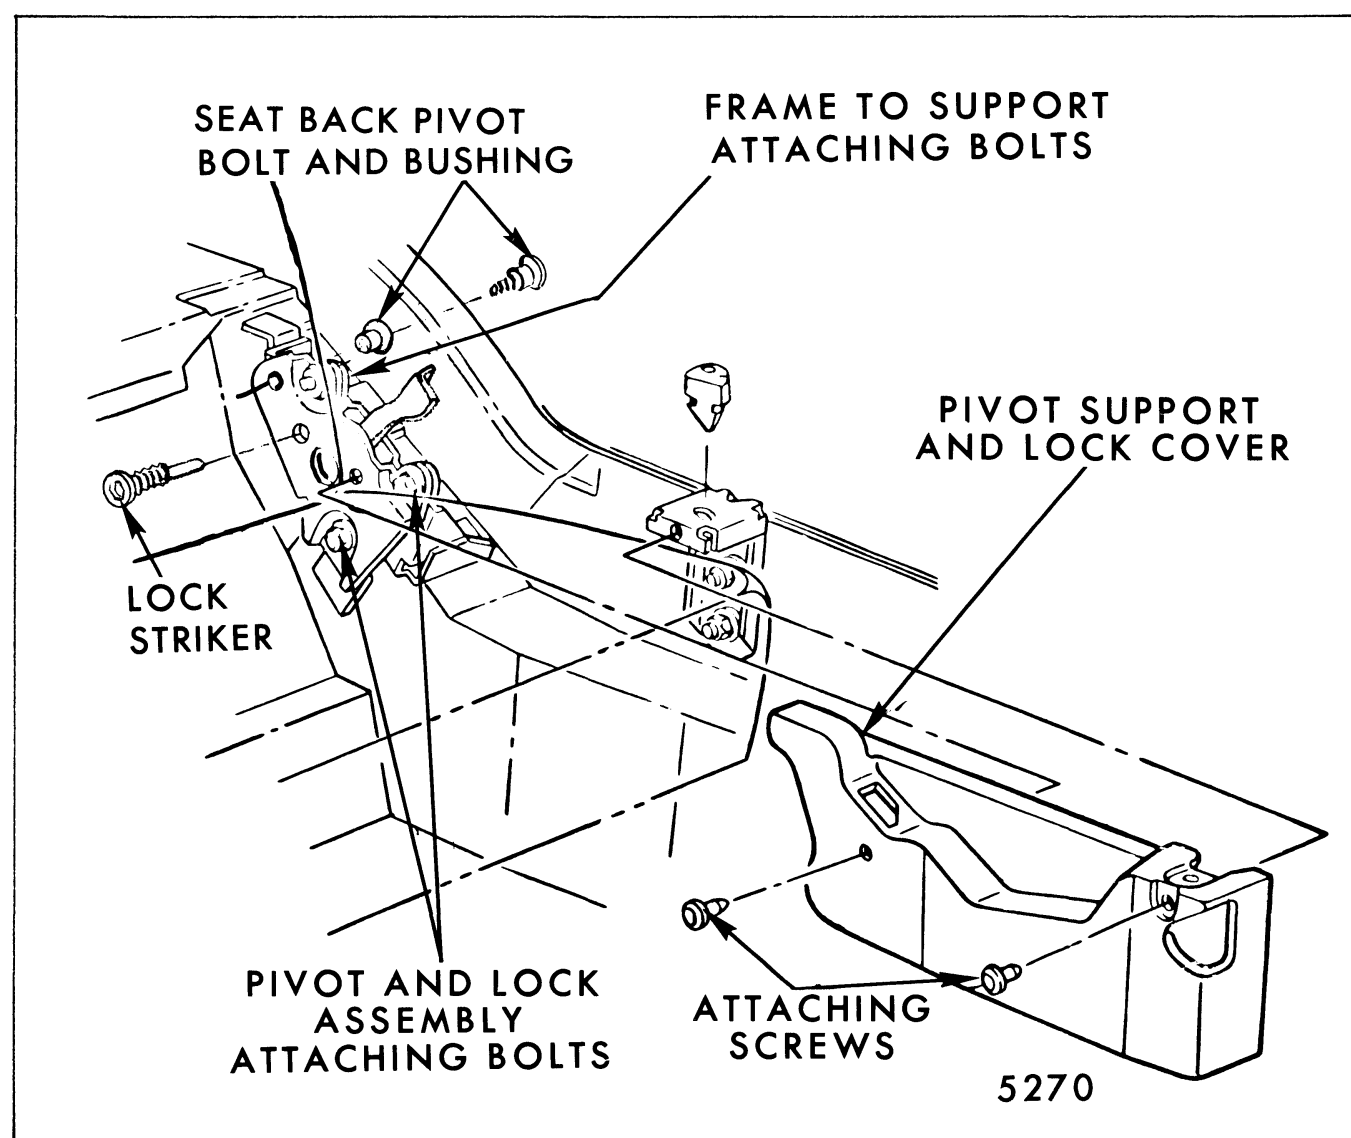

Fig. 9-77-Folding Third Seat Back Pivot and Lock Support Assembly - "A" Body Three-Seat Styles
4. Remove three (3) pivot and lock support attaching bolts (right and left side) then lift seat back panel, pivot and lock support assembly from body (Fig. 9-77).
5. To detach support and lock assembly from seat back panel remove two (2) attaching bolts securing support to panel (Fig. 9-77).